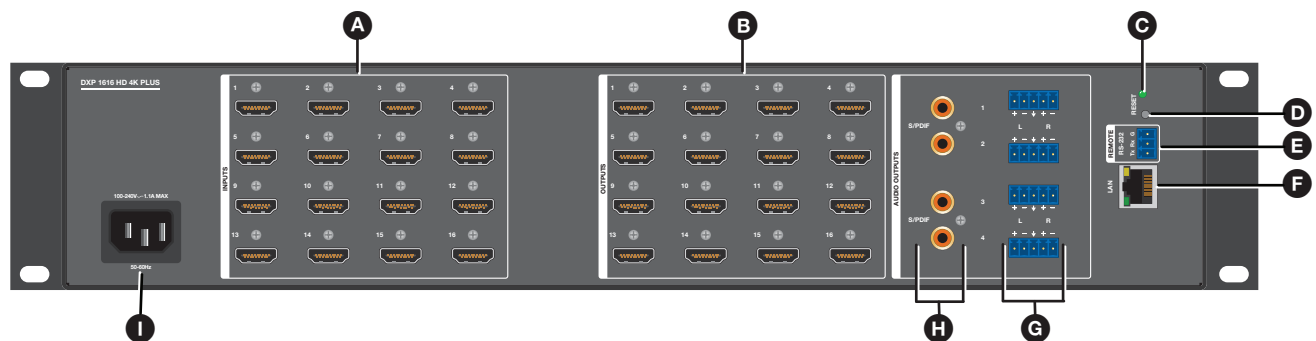
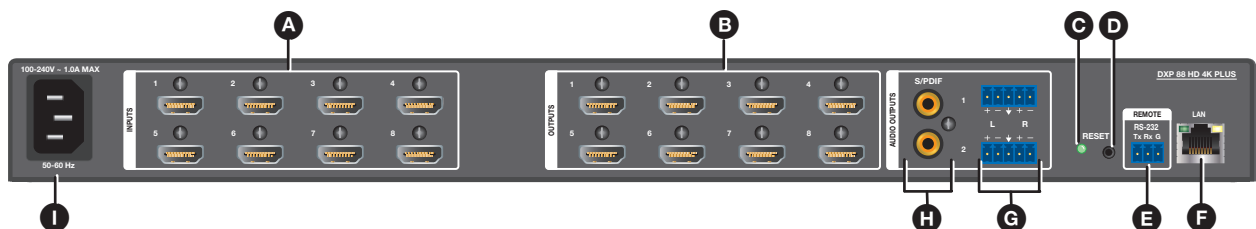
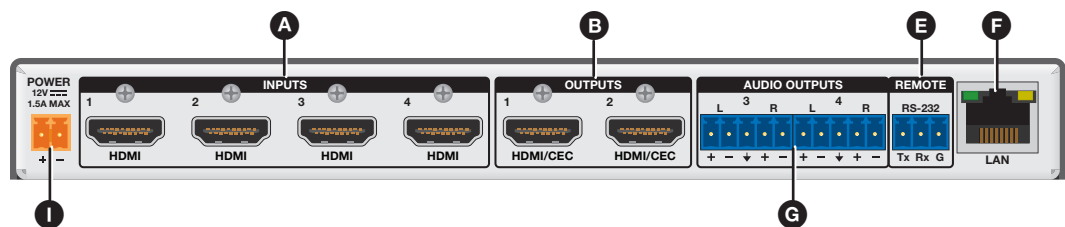

Figure 4. DXP 1616 PLUS HD 4K PLUS Rear Panel
Figure 5. DXP 88 HD 4K PLUS Rear Panel
Figure 6. DXP 42 HD 4K PLUS Rear Panel
See figure 4 (DXP 1616 and 168), figure 5 (DXP 44, 84, and 88), and figure 6 (DXP 42) on the next page for diagrams of the rear panels of all models.
NOTE: Figure 4 shows the rear panel of a DXP 1616 PLUS. The DXP 168 PLUS rear panel is identical except that it has eight outputs instead of 16.
NOTE: Figure 5 shows a DXP 88 HD 4K PLUS. The rear panels of the DXP 44 and DXP 84 models are identical to it except for the number of inputs and outputs:
Legend for Figures 4, 5, and 6
- **DXP 44, 84, 88, 168, and 1616 PLUS** — Connect a standard IEC power cord (provided) to this IEC connector (see figure 4 and figure 5, **I** on page 11) and to an AC source.
- **DXP 42 PLUS** — Connect a 12 V, 1.5 A power supply (provided) to the rear panel 2-pole captive screw connector (see figure 6, **I**).